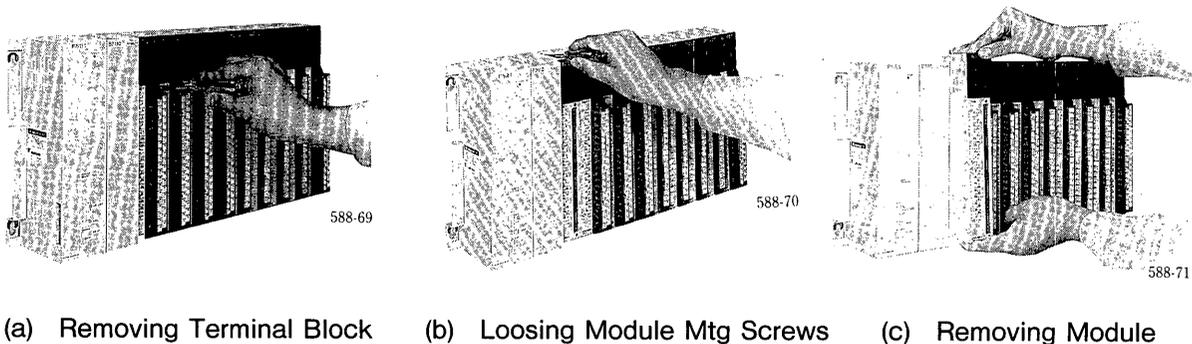

Fig. 3.1 Replacement of Module
- ② Remove the terminal block. [See Fig. 3.1 (a).]
- ③ Loosen the module mounting screws. [See Fig. 3.1 (b).]
- ④ Remove the module. [See Fig. 3.1 (c).]